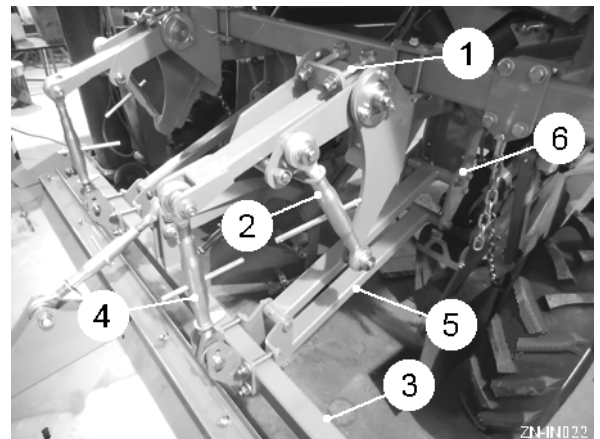

Fig 15
The bed shaper can be either an adjustable moulding board or ridgers. The torsion springs (item 1, fig 15) control the effect the moulding board / ridgers have when preparing the finished bed / ridge. When fitted with a moulding board, the torsion springs exert pressure on the bed. When fitted with ridgers, the springs act as an adjustable tension spring.
To adjust the pressure / tension exerted by the torsion springs, adjust the top links (item 2, fig 15). Shortening the top links will exert more downward pressure on the tool bar. Conversely, lengthening the links will carry weight off the tool bar. Ensure both sides are adjusted equally.
The height at which the tool bar (item 3, fig 15) operates is set by the top links (item 4, fig 15). During work the parallel arms (item 5, fig 15) should be at approximately 10° to the horizontal. Additional height adjustment is provided by the holes in the mounting plates (item 6, fig 15).